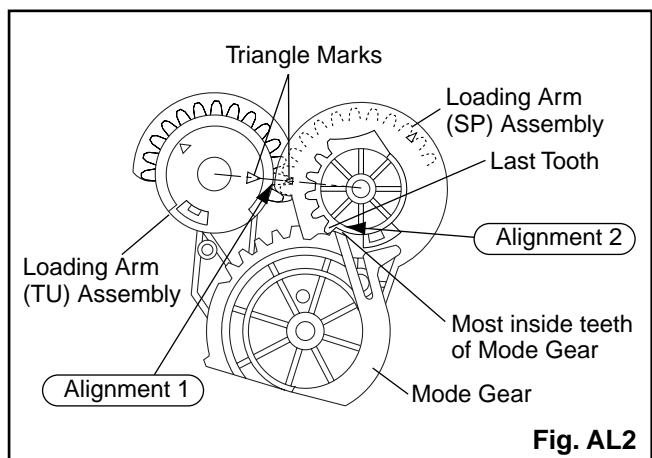

Fig. AL2
Install Loading Arm (SP) and (TU) Assembly so that their triangle marks point to each other as shown in Fig. AL2.
Keeping the two triangles pointing at each other, install the Loading Arm (SP) Assembly so that the last tooth of the gear meets the most inside teeth of the Mode Gear. See Fig. AL2.